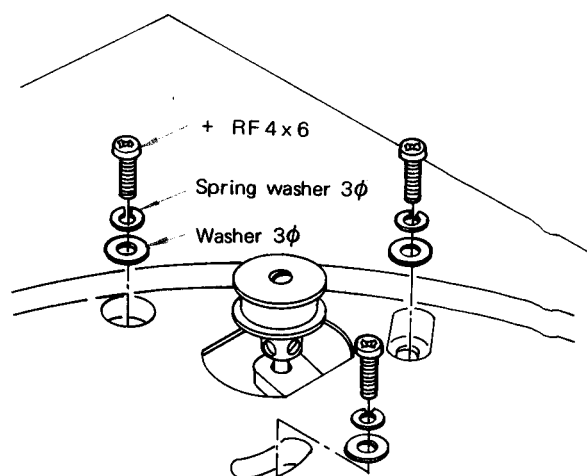

Fig. 2-6 Motor support bracket removal
4. Remove the three screws (+RF 4×6) that secure the motor-supporting bracket to the turntable base as shown in Fig. 2-6.